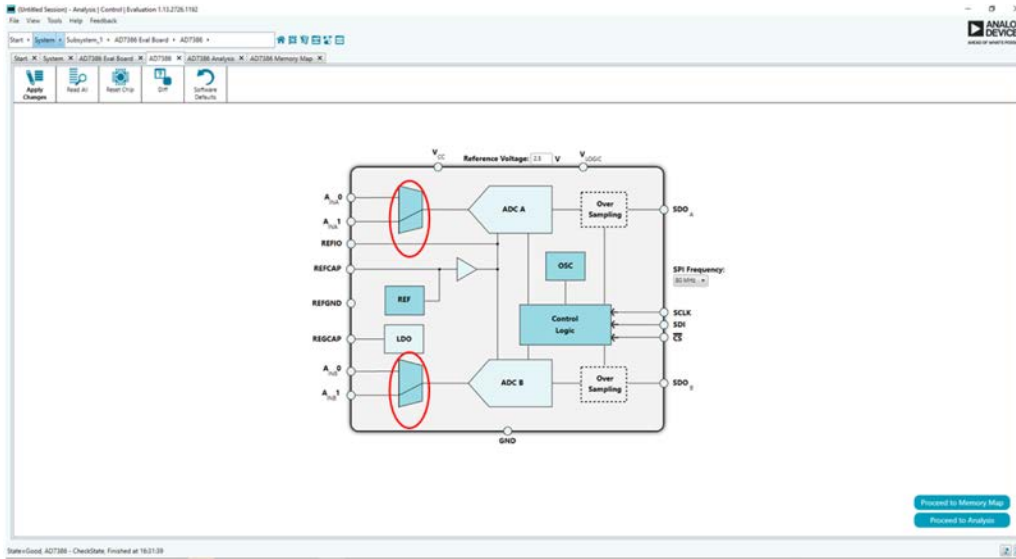

Figure 15. Channel Selection View
2. Type the value of the reference voltage in the **Reference Voltage** box when **External Reference** is selected (click the **REF** block in Figure 15 to access this option). The default value for the external reference is set to 3.3 V and 2.5 V for the internal reference.
Click the multiplexer icons circled in red (see Figure 15) to select the ADC channel pairs for conversion (A_{INA0}/A_{INB0} and A_{INA1}/A_{INB1}).